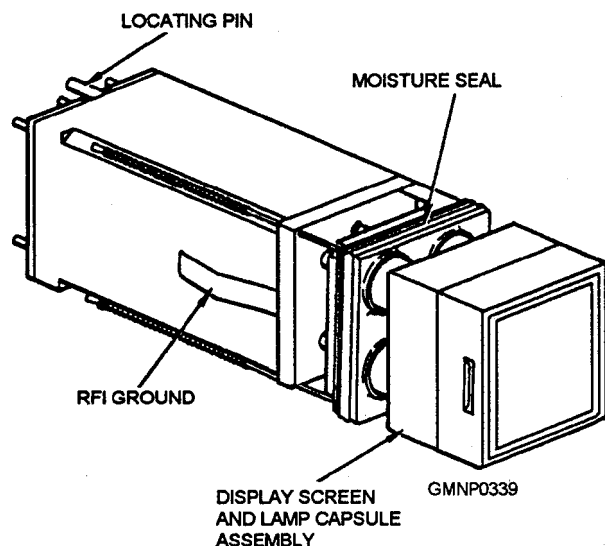

Figure 5-72.—Switch/indicator assembly.
(fig. 5-72), the thumbwheel switch (fig. 5-73), and the rotary switch (fig. 5-74).
**SWITCH/INDICATOR ASSEMBLY.**— The switch/indicator assembly (refer to fig. 5-72) is a rack-mounted, plug-in type, lighted push-button switch or indicator light assembly with a display face. The push-button unit has a momentary-type action that transfers switch contacts whenever the front lens is pressed. Indicator lamps are isolated from the switch contact and, therefore, are independently controlled. However, the indicator light feature is not used in all push-button units.